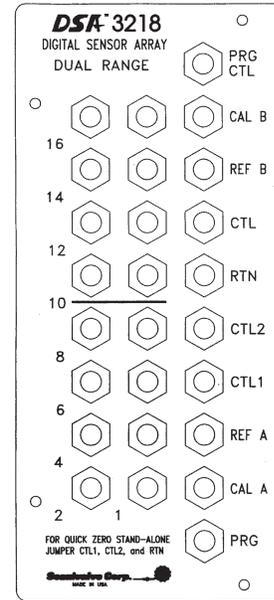

FIGURE 2.9 - DSA3218-PTP/16Px DUAL RANGE TOP PANEL
The DSA3218-PTP/16Px module is available as a dual-range module, offering eight (8) channels of one pressure range and eight (8) channels of a different pressure range. Like a standard DSA3218-PTP, each group of eight (8) transducers share a common calibration valve and a common reference manifold. However, in dual range modules the reference manifolds and the calibration valves are not tied together and separate reference and calibration ports are provided on the top of the module. They are labeled CAL A, CAL B, REF A and REF B. Figure 2.9 depicts the top panel of a dual range DSA3218-PTP/16Px module.